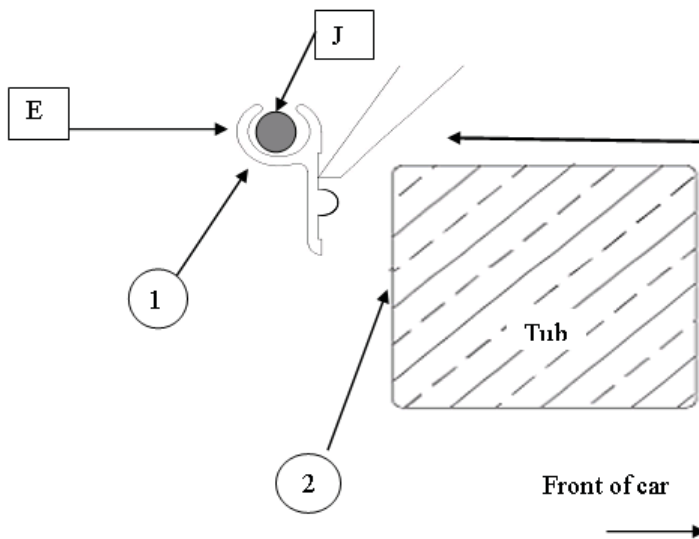

Figure 1: Placement of aluminium rope track. Ensure channel is above the tub's top edge.
3. Rest the aluminium rope track on the pieces of angle already fixed in place, and push forward to the vertical face of the head board. See Figure 1.